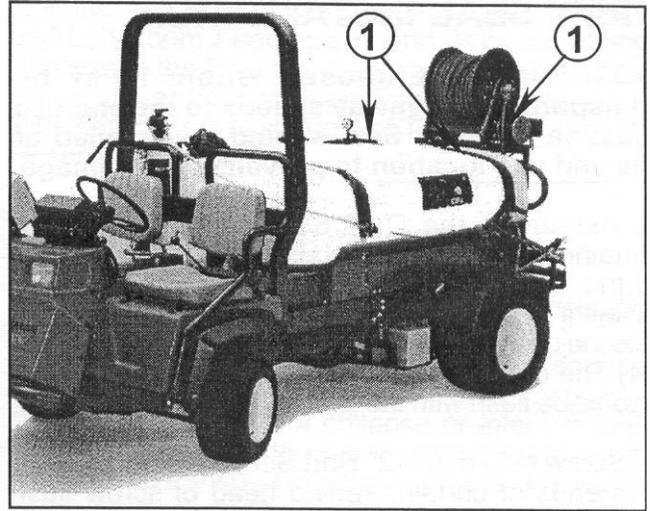

FIG. 18
1. The WARNING Decal must be applied in (3) locations as shown in FIG. 18. Apply (1) Decal on each side of the rear Spray Tank Band and (1) Decal on the Hose Reel, if so equipped.